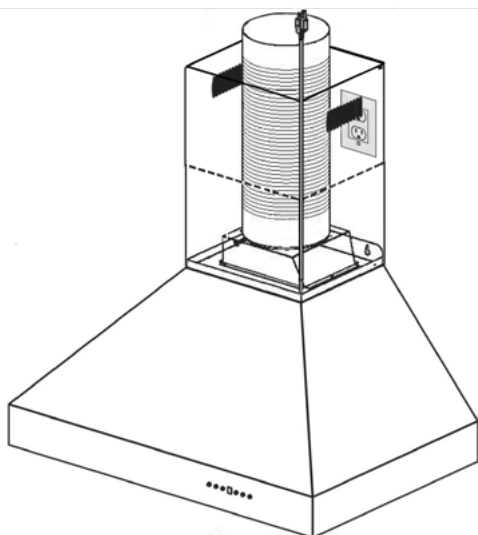

Figure 6
**NOTE:** Run the electrical cord up the chimney, outside of the ducting, and plug into a dedicated power outlet on the wall or in the attic. An outlet behind the chimney, to either the left or right, is ideal. *Figure 6, left*